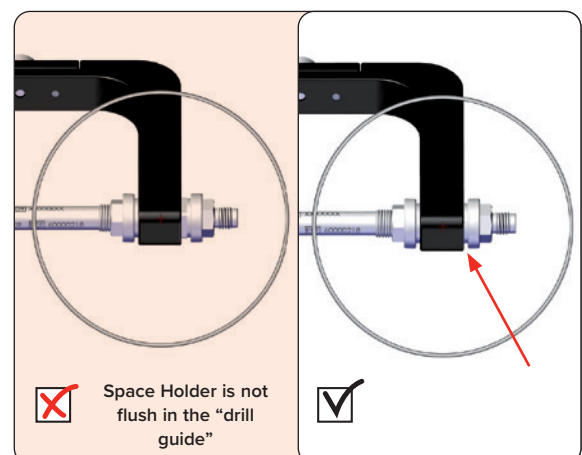

Fig. 36 Space holder wrongly inserted
2. The Space Holder is not completely flush with the Drill Guide Assembly (**Fig. 36**).